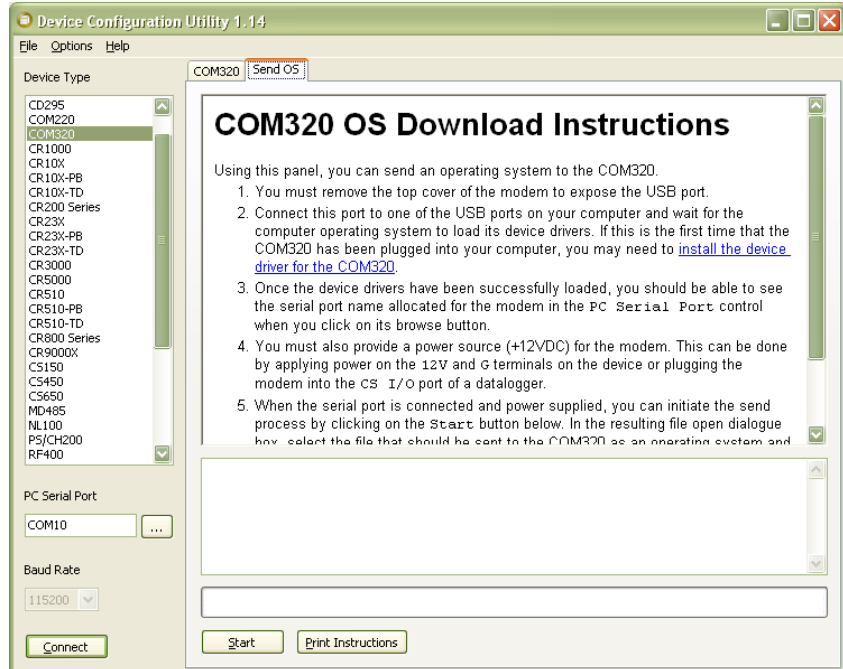

FIGURE B-1. Send OS Screen in Device Configuration
- 5) Select COM320 from the Device Configuration utility menu and select the *Send OS* tab at the top (FIGURE B-1).